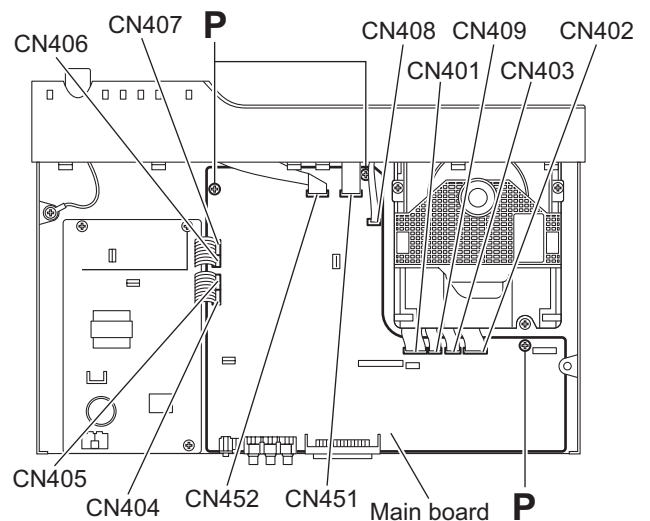

Fig.12
3.1.8 Removing the main board (See Fig.12)